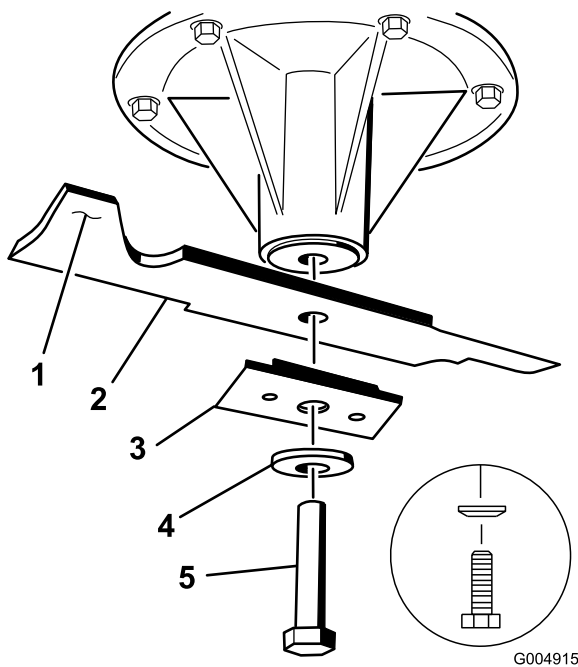

Figure 58
3. For 36 inch mower decks, remove the blade bolt, curved washer, blade stiffener, and blade from the spindle shaft (Figure 58).
3. For 36 inch mower decks, install the blade, stiffener, curved washer, and blade bolt (Figure 58).